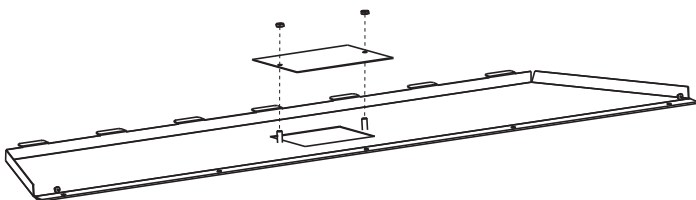

Figure 5
- Remove plate from the inner firebox top by removing the two nuts securing it. Discard the plate. See Figure 5.